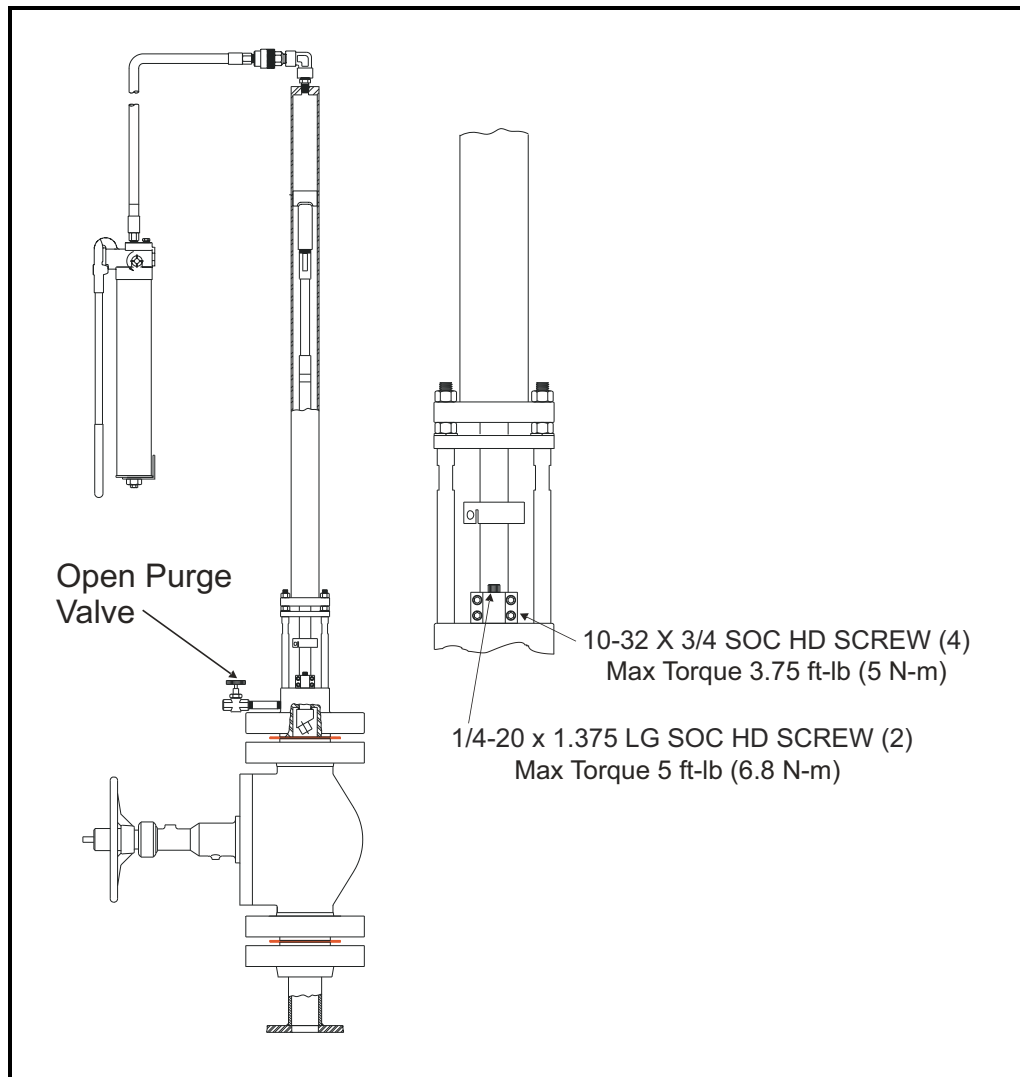

Figure 48: Preparing to Remove the Hydraulic Cylinder
To remove the hydraulic cylinder, refer to *Figure 48* below and complete the following steps:
1. Tighten the locking collar screws with a torque wrench to secure the transducer in place. Use the maximum torque listed in *Figure 48* above, but do not overtighten the screws.